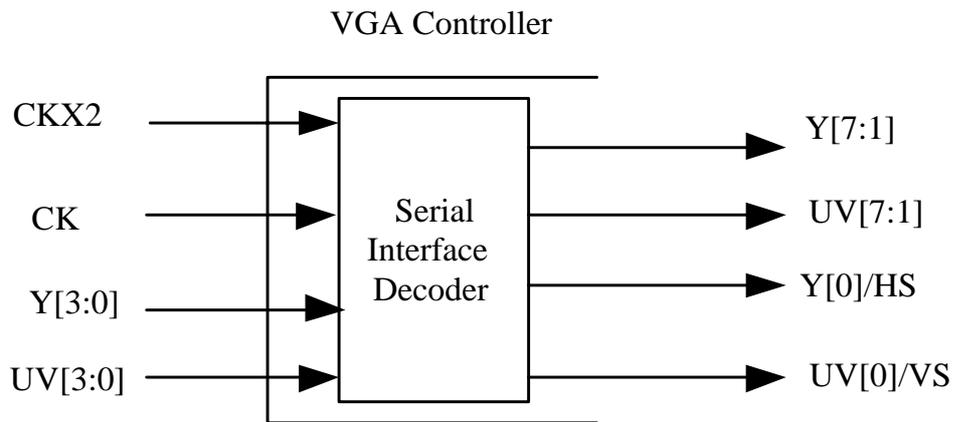
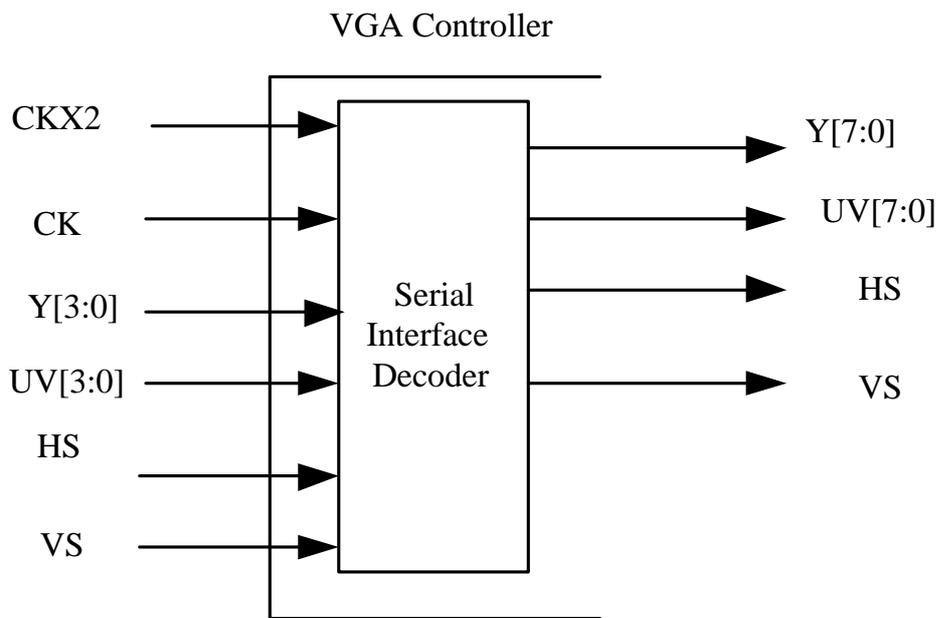

Figure 13: 10-wire serial interface
Figure 14: 12-wire serial interface
The different serial interface connections are shown as Figure 13 and Figure 14. This interface format is used for multiplexing the Y and UV component in the higher clock rate. The multiplexed signal will de-multiplex internal into CIRR601 YUV 422 format. For the 6/10-wire serial interface, the HS (VS) signal will be embedded into the LSB of 8-bit Y(UV) component (i.e. Y[0]/UV[0]). It will then be encoded into Y[0:1] (UV[0:1]) signal.